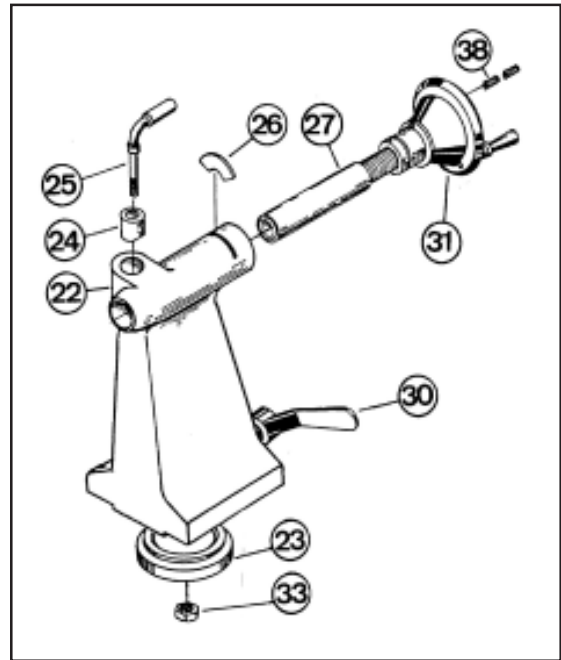

Fig.41
1. Remove lock lever (25) and clamp block (24) .
2. Pass the hexagon wrench supplied, through the hole in the handwheel (31) and unscrew the grub screw (38) in the tailstock.
3. Remove the keeper plate (26).
4. Remove handwheel (31) together with spindle (27) from end of tailstock casting (22).
5. Unscrew handwheel (31) from spindle (27).
7. Smear a little grease inside tailstock casting (22) where handwheel (31) rotates.
8. Lightly oil outside of spindle (27) including thread.
9. Reverse procedures to re-assemble. (Figure 41)